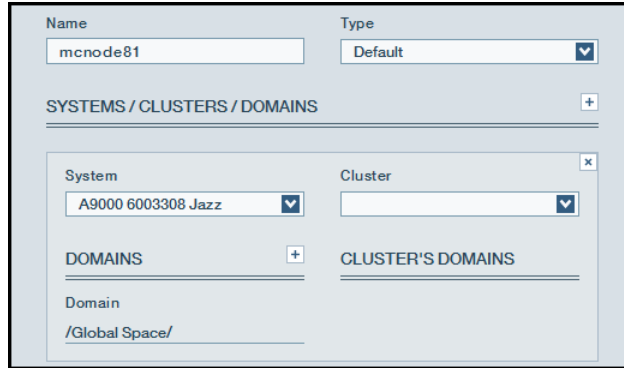

Figure 3-6 Add host details about the destination IBM FlashSystem A9000
- In the Add Host panel, enter the details for the host, as shown in Figure 3-6. Ensure that the details match the corresponding host details from the source IBM FlashSystem A9000. In this example, the Name of the host is mcnode81, the Type is default, and the Cluster value is empty. The System value is chosen from the drop-down selection and set to the Destination IBM FlashSystem A9000 (A9000 6003308 Jazz in this example).